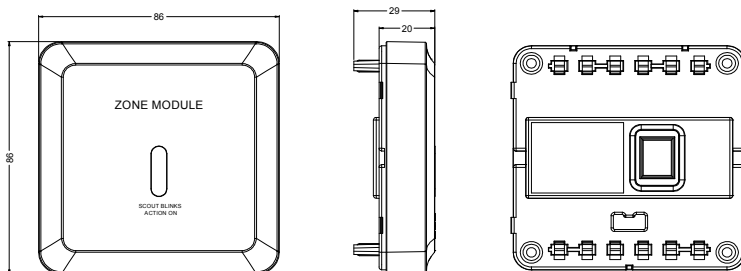

Fig.1 Main part of the A9052T Module (unit: mm)
- 2) Connect the 4-pin coding plug on the coder with the 4-pin coding socket (see Fig.1) on the main body of the A9052T module, and then set the coder with the coding function and compile the correct address code to finish the address coding.